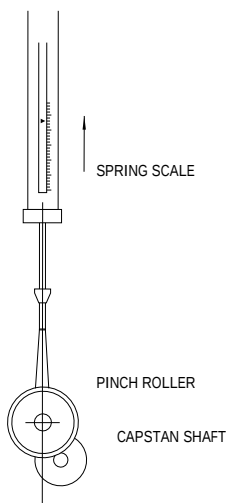

Figure 6-5
The pinch roller pressure against the capstan shaft is determined by the pinch roller solenoid spring. The pinch roller solenoid spring is adjusted with a nut as shown in **Figure 6-5**.
5. Pull on the scale straight from the center of the capstan shaft as shown in Figure 6-5. Note the scale reading when the pinch roller loses contact with the capstan (the pinch roller stops rotating). The scale reading should be 2.5 ~ 2.7 kg (5.5 ~ 5.9 pounds).